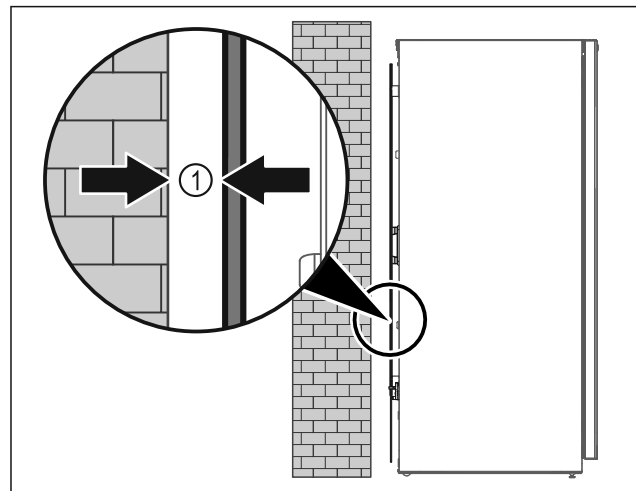

Fig. 50
- ▶ Set up the appliance either free-standing or directly against a wall at a minimum distance of 5 mm Fig. 50 (1).